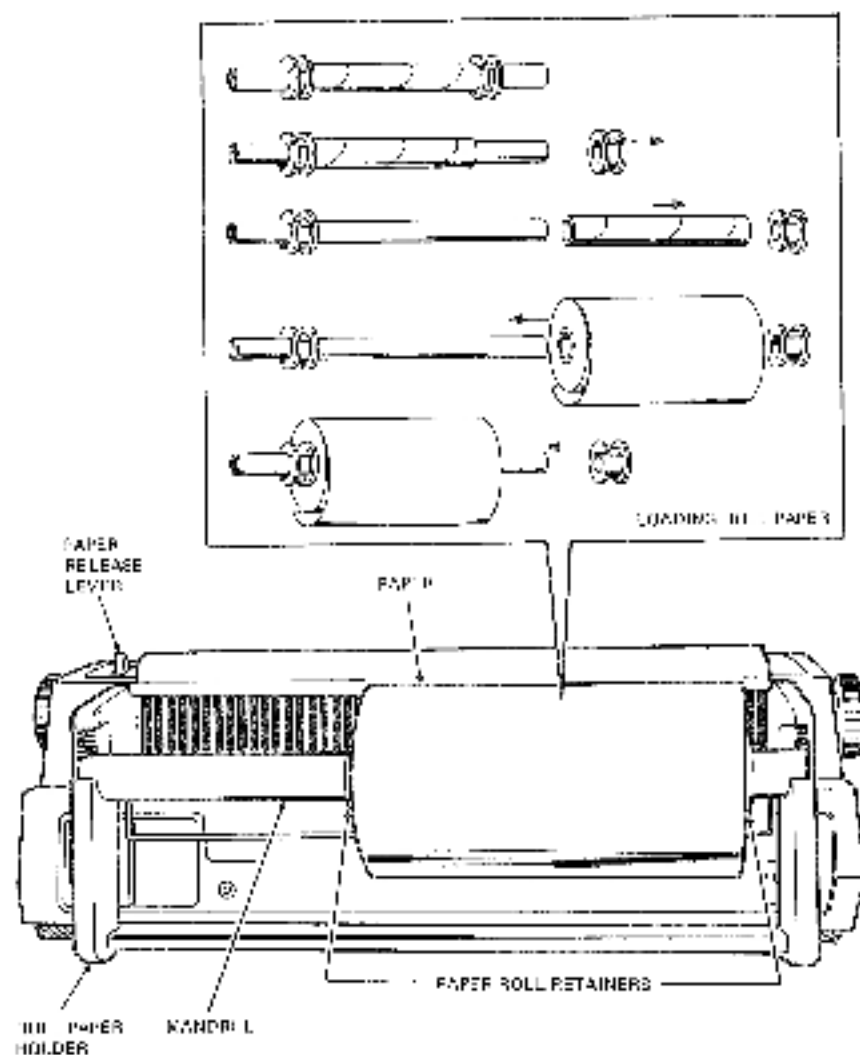

Figure 2-5 Loading Roll Paper
1. Remove the mandrel from the roll paper holder and slide one paper roll retainer from the mandrel (Figure 2-5).
6. Pull the paper release lever toward the front of the printer (Figure 2-5). Smooth the paper over the surface of the platen and line up the sides of the paper with the supply roll edges.
13. Pull the paper release lever toward the front of the printer (Figure 2-5).